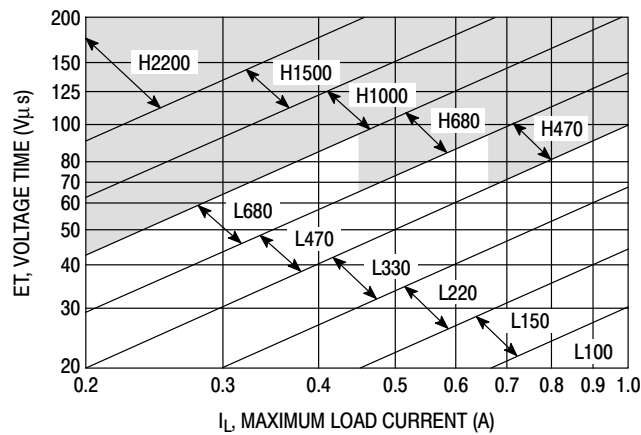

Figure 21. LM2575-Adj
4. Inductor Selection (L1) A. Use the following formula to calculate the inductor Volt x microsecond [V x μs] constant: $E \times T = (V_{in} - V_{out}) \times \frac{V_{out}}{V_{on}} \times \frac{10^6}{F[\text{Hz}]} [V \times \mu s]$ B. Match the calculated E x T value with the corresponding number on the vertical axis of the Inductor Value Selection Guide shown in Figure 21. This E x T constant is a measure of the energy handling capability of an inductor and is dependent upon the type of core, the core area, the number of turns, and the duty cycle. C. Next step is to identify the inductance region intersected by the E x T value and the maximum load current value on the horizontal axis shown in Figure 21. D. From the inductor code, identify the inductor value. Then select an appropriate inductor from the Table 1 or Table 2. The inductor chosen must be rated for a switching frequency of 52 kHz and for a current rating of $1.15 \times I_{load}$. The inductor current rating can also be determined by calculating the inductor peak current: $I_{p(max)} = I_{Load(max)} + \frac{(V_{in} - V_{out}) t_{on}}{2L}$ where t_{on} is the "on" time of the power switch and $t_{on} = \frac{V_{out}}{V_{in}} \times \frac{1}{f_{osc}}$ For additional information about the inductor, see the inductor section in the "External Components" section of this data sheet.	4. Inductor Selection (L1) A. Calculate E x T [V x μs] constant: $E \times T = (12 - 8.0) \times \frac{8.0}{12} \times \frac{1000}{52} = 51 [V \times \mu s]$ B. E x T = 51 [V x μs] C. $I_{Load(max)} = 1.0 \text{ A}$ Inductance Region = L220 D. Proper inductor value = 220 μH Choose the inductor from the Table 1 or Table 2.